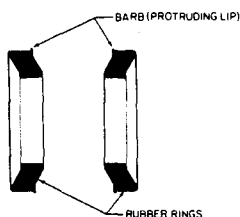

Figure 1
1. The rebuilding kit includes two (2) rubber rings (see Figure 1) and two (2) lint free wiping cloths. Both of the rubber rings must have barbs as shown in the drawing.